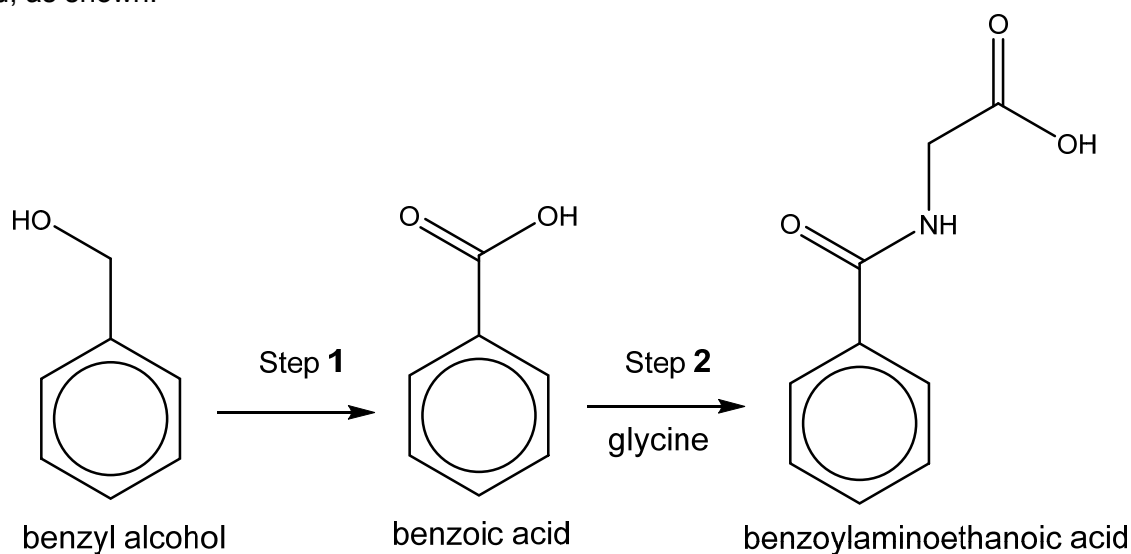

Fig 5.5
- (f) Fig. 5.5 shows a possible process in the human body where benzyl alcohol is oxidised to benzoic acid, conjugated with amino acid, glycine in the liver, and excreted as benzoylaminoethanoic acid, as shown.